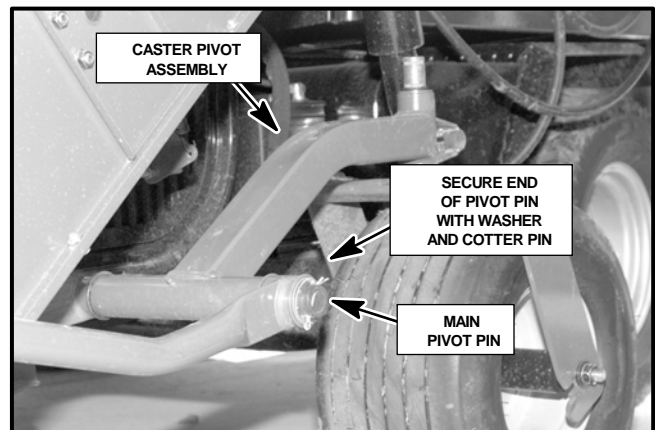

Figure 18
4. The push tube and the caster pivot assembly are attached to the main pivot pin assembly (See Fig. 18). The pin is already inserted through the push tube and caster pivot assembly mounts but is shipped without the washer and cotter pin attached.
5. Push the pivot pin from the vehicle side, outward through all bushings securing the caster pivot assembly and push tube to the main pivot pin. Secure using one (1) large washer (Part No. 832479) and one cotter pin (Part No. 325109).